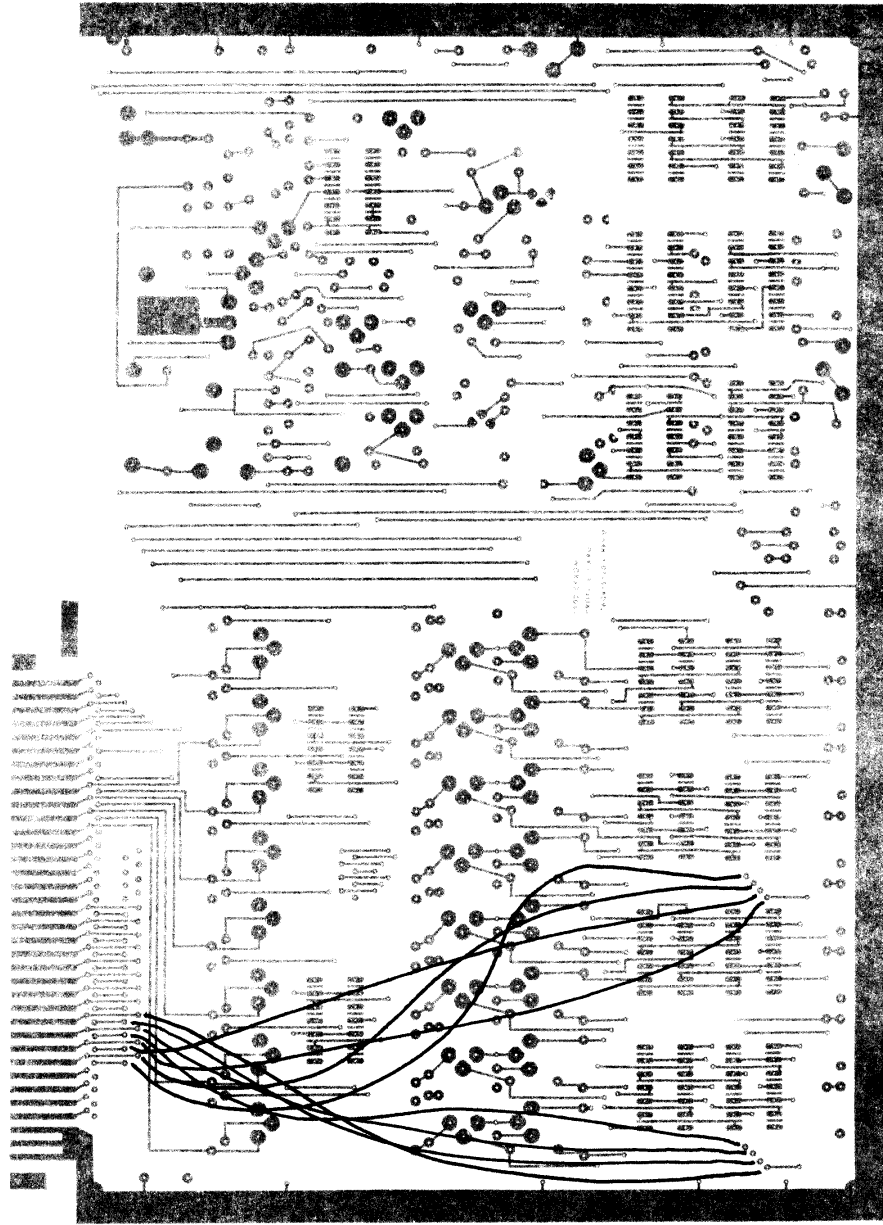

Figure 5. Data Input Drivers Wiring
- () Install the remaining eight wires as shown in Figure 5. Solder and cut off excess lead length.